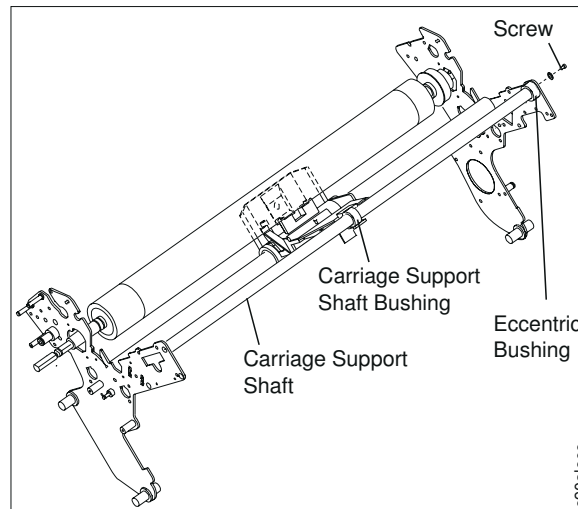

Figure 11. Carriage support shaft
4. Using pliers, rotate the eccentric bushing until a minimum difference between the left and right end gaps is obtained (see Figure 11)